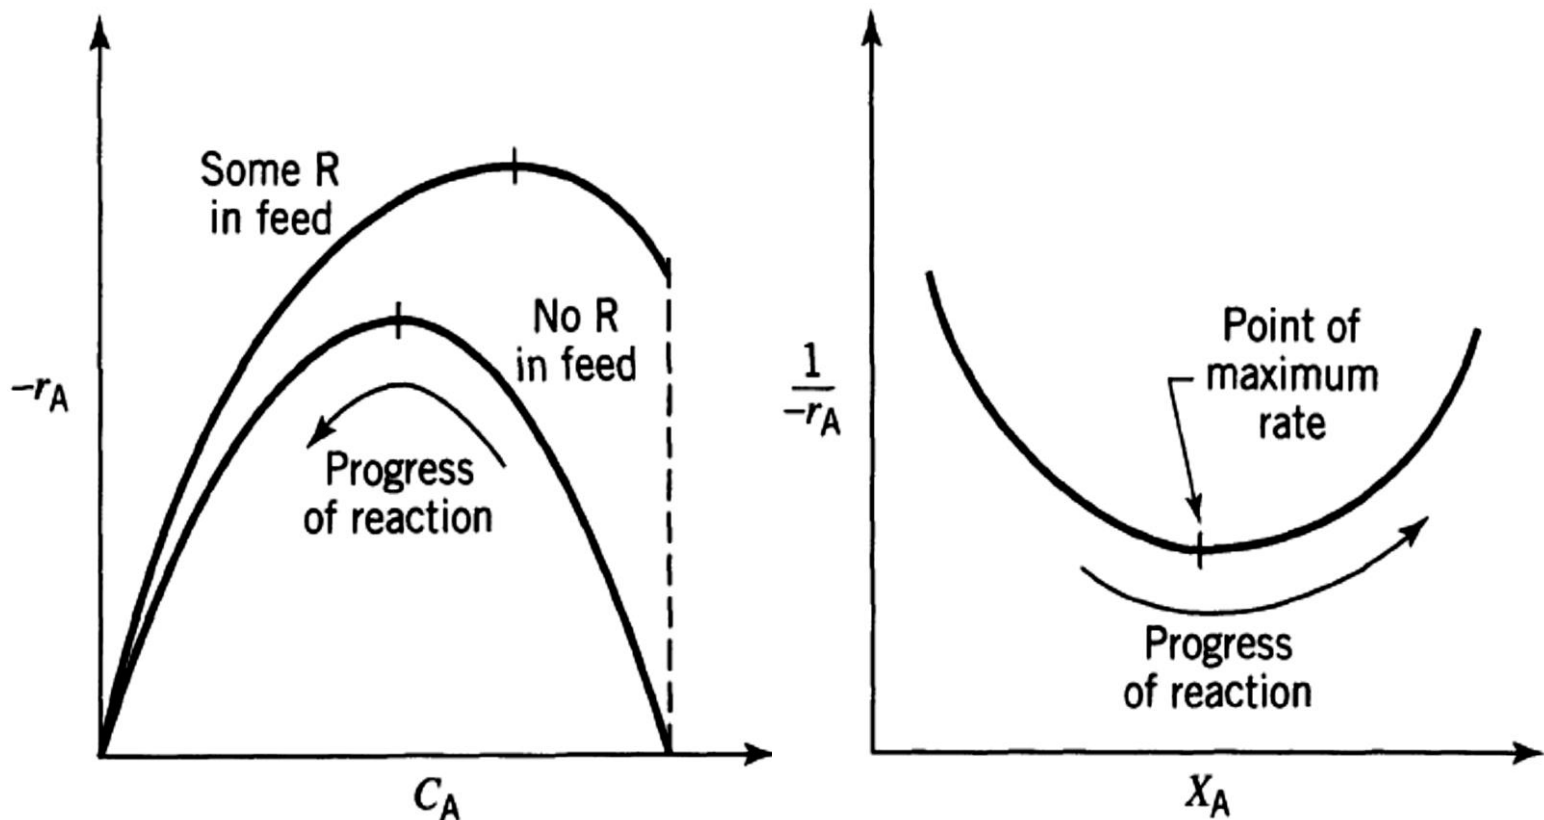

Figure 7-1 Typical rate-concentration curve for Autocatalytic reaction.
- In an autocatalytic reaction, the rate at the start is low because little product is present; it increases to a maximum as product is formed and then drops again to a low value as reactant is consumed. Figure 7-1 shows a typical situation for the reaction: